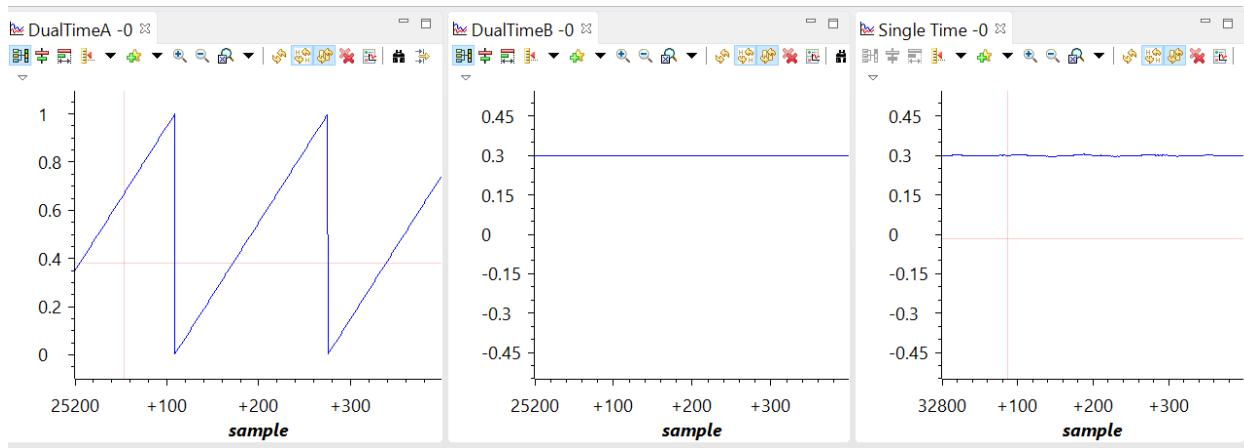

Figure 14 Iq reference, Iq feedback and angle output waveform
Step 3. Connect inputs of the datalog module; the datalog graph for SVGEN output is shown in Figure 14